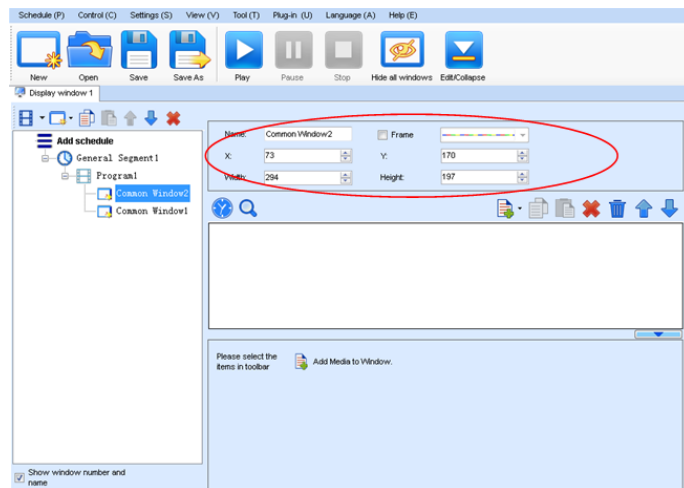

Figure 4-13 Setting the Window Size
- a) Directly specify the new location and size in the setting pane, as shown in Figure 4-13: